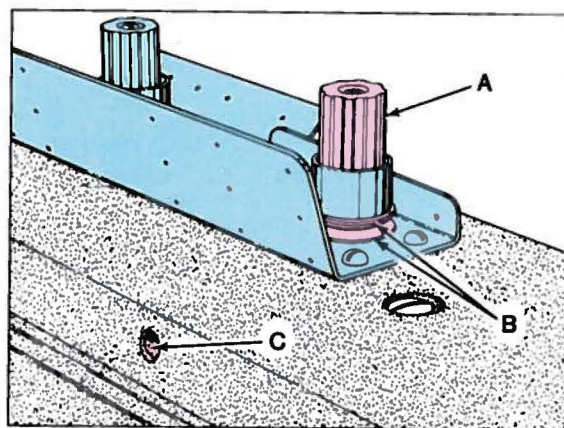

Fig. 19
Needle thread tension assembly (A, Fig. 19) is set correctly when the tension discs (B) start to release as the presser foot is raised to within 1/8 inch (3.2mm) of the end of its travel and completely released when presser foot has reached its highest position.